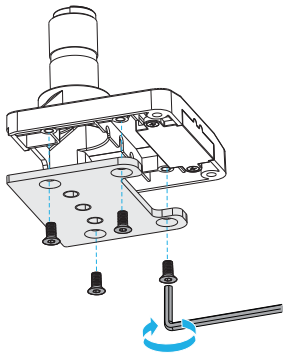

Figure 8
2. Insert the **Countersunk Screws** (x 4) through the **Grommet Base Plate** and into the bottom of the **Base**. Use the **4mm Hex Key** to tighten the **Countersunk Screws** (x 4). (Figure 8)